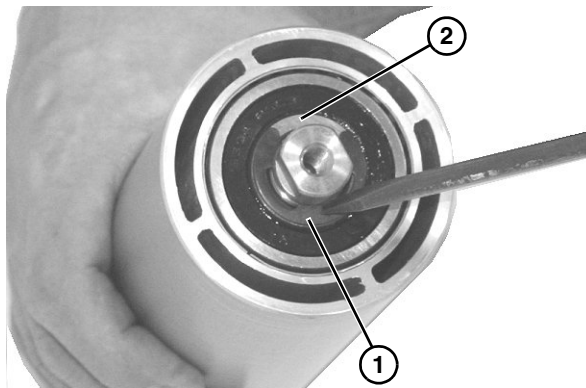

Figure 50
5. Remove the spindle shaft assembly: remove the clip ring (**Figure 50, item 1**) and washer (**Figure 50, item 2**) from one side of the spindle assembly.